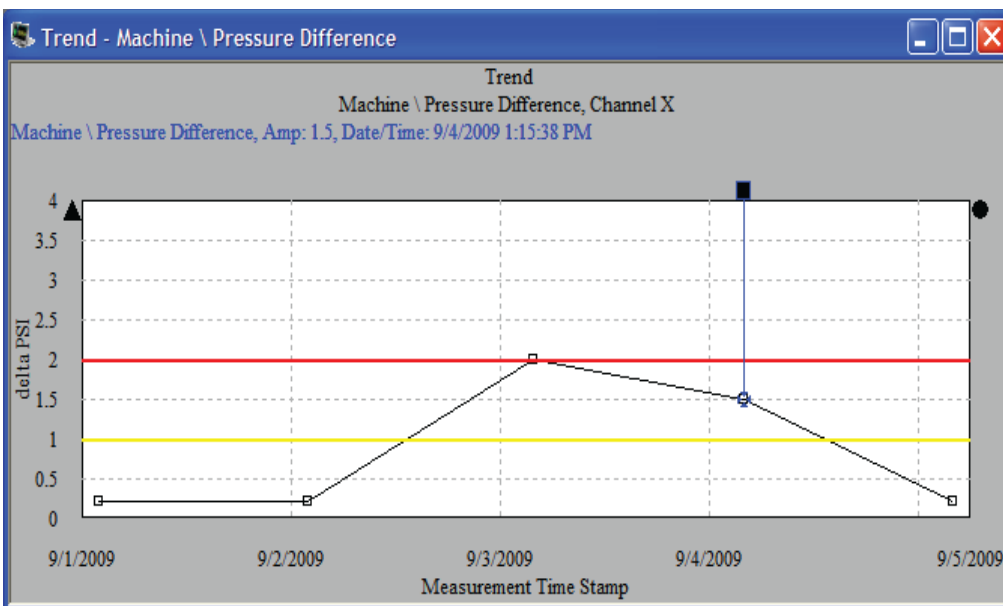

Figure 9. Final pressure difference trend.
- Save the changes by pressing the OK button. Highlight the derived POINT and select Edit/Calculate Derived POINTs to force the software to update the POINT's values for the new formula. The resulting trend is shown in Figure 9.